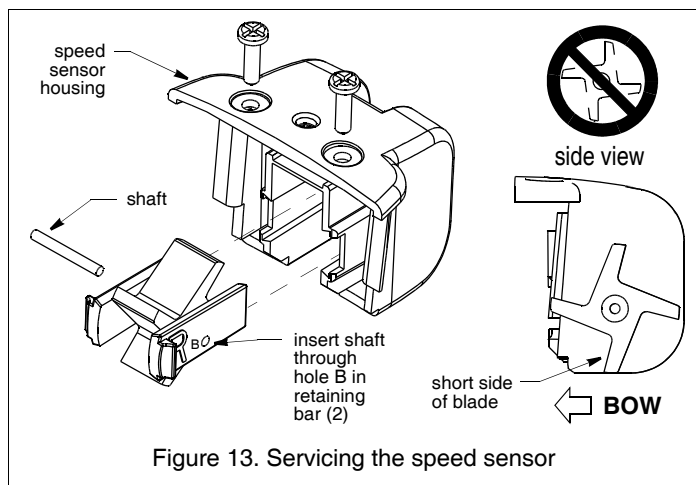

Figure 13. Servicing the speed sensor
2. The paddlewheel assembly is a loose slip fit. Carefully, slide the speed sensor upward while keeping the paddlewheel assembly inside (see Figure 13).
If the paddlewheel becomes fouled or inoperable, remove it for cleaning. Remove the two screws from the speed sensor (see Figure 13). Slide it upward to remove it from the transducer housing. Grasp the two retaining bars and pull to access the shaft.